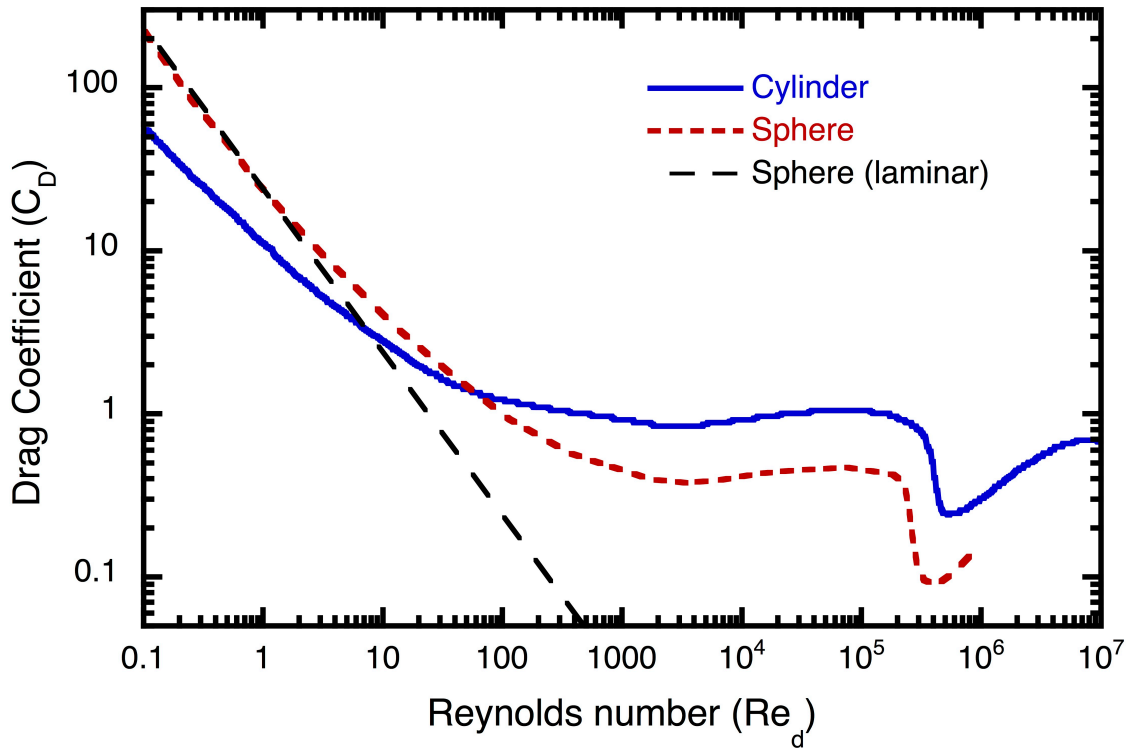

Figure 21. Drag coefficients as a function of Reynolds number based on diameter (Re_d) for cylinders in cross-flow and spheres.
The above terminal velocity is **only valid for laminar flow**. For turbulent flow, there is no simple analytical relationship between Re_d and C_D , so one must resort to experiments or detailed (and difficult) computer simulations of the Navier-Stokes equations. Figure 21 shows a comparison of the actual C_D vs. Re_d with that predicted by the low- Re_d laminar-flow model. It can be seen that the relation for laminar flow is reasonable up to about $Re_d \approx 3$ but at higher Re_d , the flow is NOT laminar and thus the laminar flow result $C_D = 24/Re_d$ does not apply. As one would expect, C_D is higher with turbulent flow. Note also that at $Re_d \approx 3 \times 10^5$ there is a sudden decrease in C_D .
Please note: both axes in Figure 21 are plotted on a logarithmic scale in order to span many decades of Re_d and C_D . The “distance” between numbers A and B on a logarithmic scale is calculated based on $\log_{10}(A) - \log_{10}(B) = \log_{10}(A/B)$, whereas the “distance” between A and B on a linear scale is calculated based simply on $A - B$. So the tick marks between (for example) 1 and 10 are 2, 3, ...9 but they are not evenly spaced because the “distance” (in logarithmic space) between 1 and 2 is $2/1 = 2$ and the “logarithmic distance” is $\log_{10}(2/1) = \log_{10}(2) = 0.301$ (or 30.1% of the distance between 1 and 10) whereas the “logarithmic distance” between 8 and 9 is much less, i.e., $\log_{10}(9/8) = \log_{10}(1.125) = 0.051$ (or 5.1% of the distance between 1 and 10). Another point to note is that a straight line on a plot with logarithmic scales on both axes does not represent a linear relation such as $y = mx + b$, but rather it indicates a power-law relation, i.e. $y = mx^b$. For laminar flow around spheres, the relationship is $C_D = 24/Re_d$, that is $m = 24$ and $b = -1$, thus the slope of the plot for this special case is -1.
A similar C_D vs. Re_d plot for cylinders in cross-flow (i.e. with the flow in the direction perpendicular to the axis of the cylinder) is also shown in Figure 21, but for cylinders there is no simple analytical relationship analogous to the $C_D = 24/Re_d$ result for laminar flow over spheres. Note again the sudden decrease in C_D at almost the same Re_d as for spheres. Note that a 3 cm golf ball hit at 70 m/s in air has a Reynolds number of $(70 \text{ m/s})(0.03 \text{ m})/(1.5 \times 10^{-5} \text{ m}^2/\text{s}) = 1.4 \times 10^5$. Dimpling the
- 3) Look up her drag coefficient in Figure 21.
3) From Figure 21, $C_D \approx 0.4$